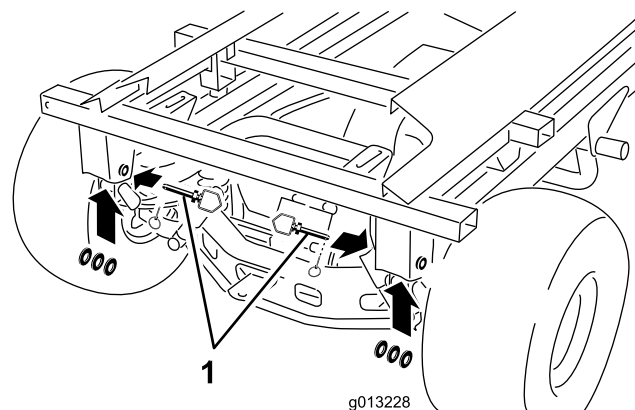

Figure 50
10. Remove the rear lynch pins, hitch pins and washers (Figure 50).